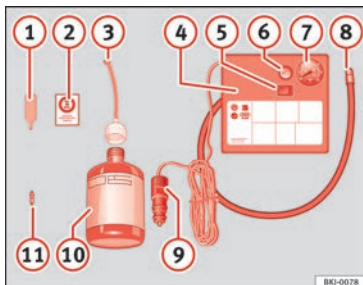

Fig. 90 Standard representation: contents of the anti-puncture kit.
The anti-puncture kit is located underneath the floor covering in the luggage compartment. It includes the following components » **Fig. 90**:
Screw in the inflater tube » **Fig. 90** ⑧ again and check the pressure on the gauge ⑦.